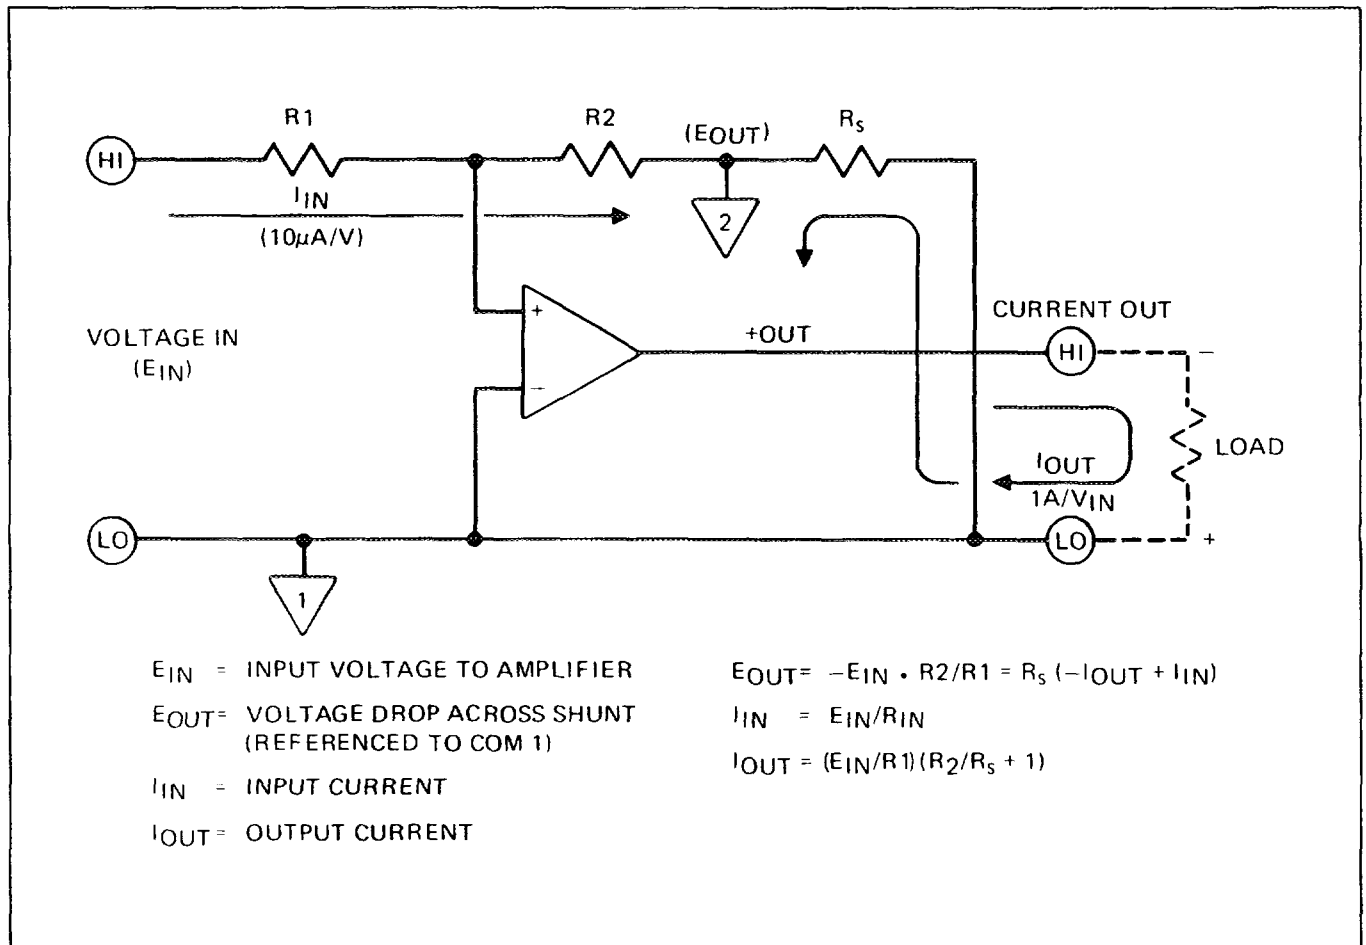

Figure 3-2. Transconductance Amplifier Simplified Circuit Diagram
3-10. Overall operation of the transconductance amplifier is illustrated in Figure 3-2. When an input voltage, E_{IN} , is applied to the amplifier an output current, I_{OUT} , is produced. The current passes through the series connected load and the precision shunt, R_S . Current passing through the shunt produces a voltage (IR) drop, E_{OUT} , whose polarity (with respect to COM 1) is opposite that of the input voltage. This voltage is returned to the amplifier as negative feedback through resistor R_2 . The values of R_1 , R_2 , and R_S established the 1:1 ratio of input voltage to output current. See equations in Figure 3-2.